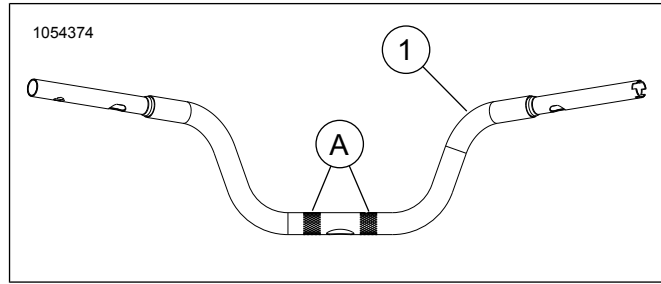

Figure 4. Service Parts: Handlebar
- See Figure 4. Install the handlebar (1) to the riser base, routing the wire bundles down through the upper fork bracket.
- Seat the handlebar with the knurled areas (A) centered on the riser base. Install the riser clamp and clamp bolts, but do not fully tighten.
5. See Figure 4. Install hole plugs (2) into the handlebar. Make sure to align the logo.